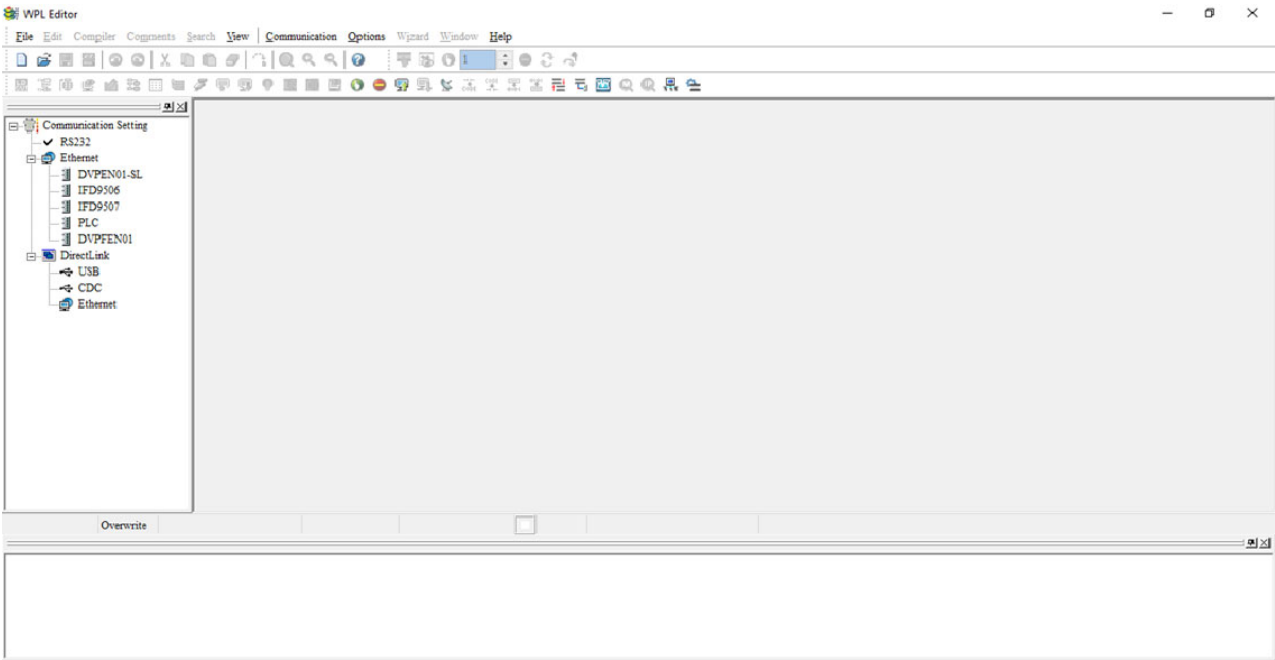

Figure 15-2
Step 2: The WPLSoft editing window appears (see figure 15-2 below). When running WPLSoft for the first time, before "New file" has been used, only the "File (F)," "Communications (C)," View (V)," "Options (O)," and "Help (H)" columns will appear on the function toolbar.